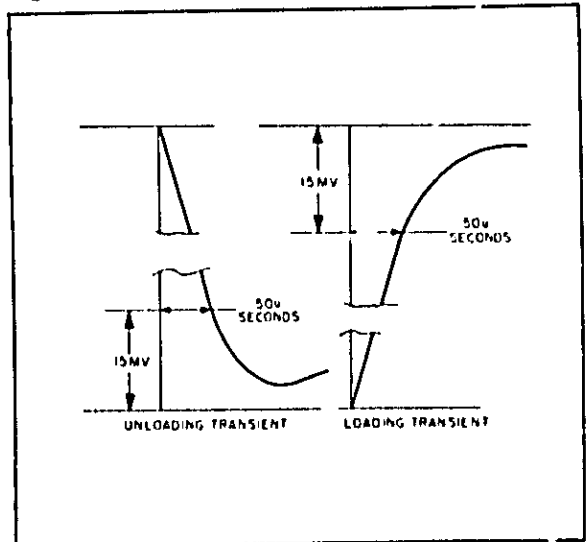

Figure 5-6. Load Transient Recovery Time Waveforms
i. Starting from the major graticule division representing time zero, count to the right $50\mu s$ and vertically $15mV$. Recovery should be within these tolerances, as illustrated in Figure 5-6.